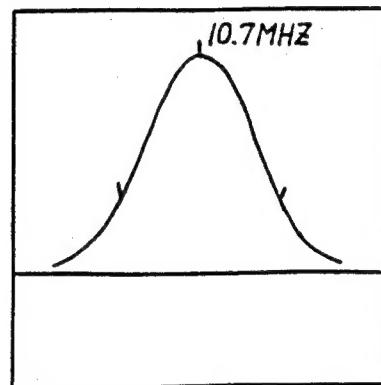

Fig. 2-1
3. Adjustment the waveform as shown on Fig.2-1 with L103.